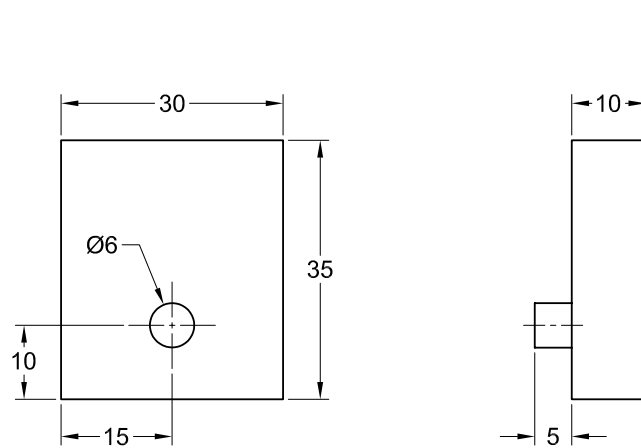

Figure 2-30 The front and side views of the piston tank
4. Similarly, draw the sketch of the piston tank, refer to Figure 2-30, and then save the sketch as a separate block file with the name **Piston_tank**.
Next, you need to create the shaft for the **Piston_tank**, refer to Figure 2-30.